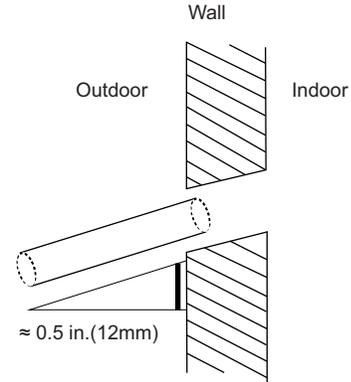

Fig. 31 —Drill hole
2. Use a 1” core drill to drill a hole in the wall. Make sure the hole is drilled at a slight downward angle, so that the outdoor end of the hole is lower than the indoor end by about 0.5in (12mm) (see Figure 31). This will ensure proper water drainage. Place the protective wall cuff in the hole. This protects the edges of the hole and helps seal the hole once the installation is complete.